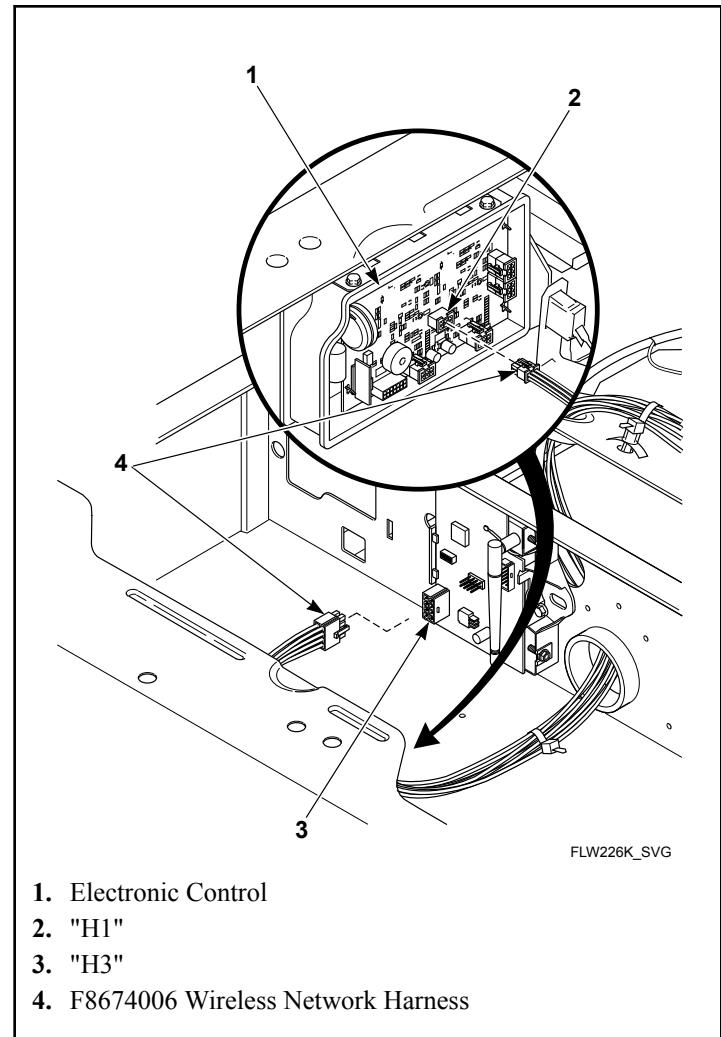
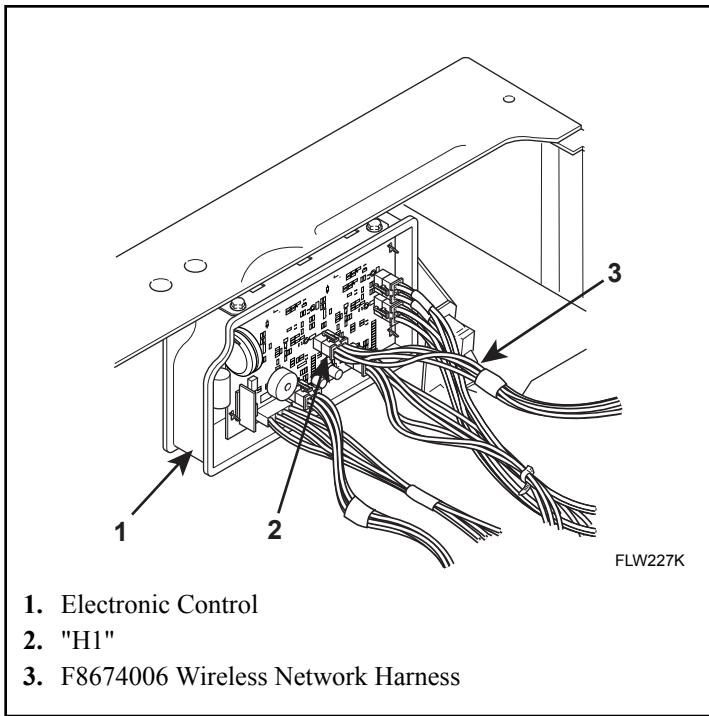

Figure 6
Figure 7
4. Install the F8674006 Wireless Network Harness between the network board "H3" refer to *Figure 6*, and the electronic control "H1". Refer to *Figure 7*.